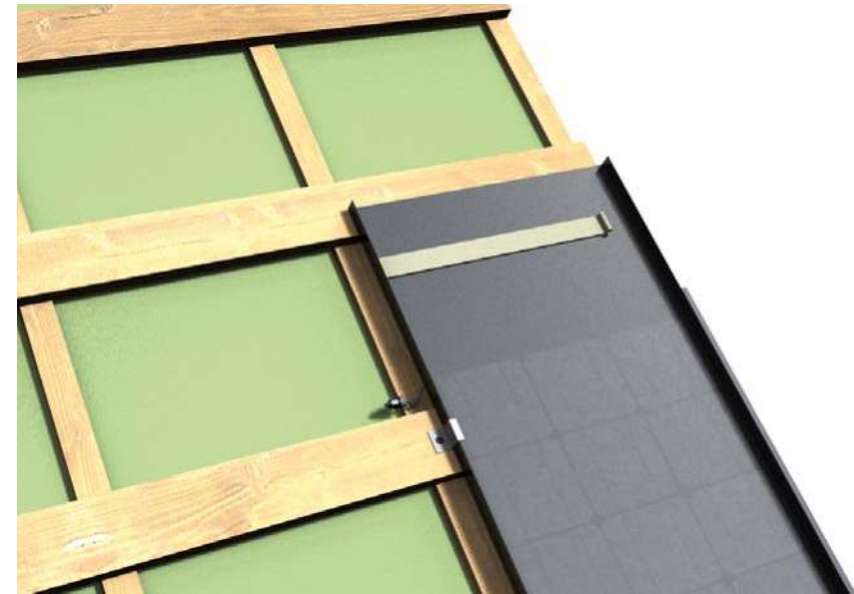

Fig. 12
- c. Putting double tape to the overlapping area of Roofit.solar panel that will join regular metal panel (Fig. 12).